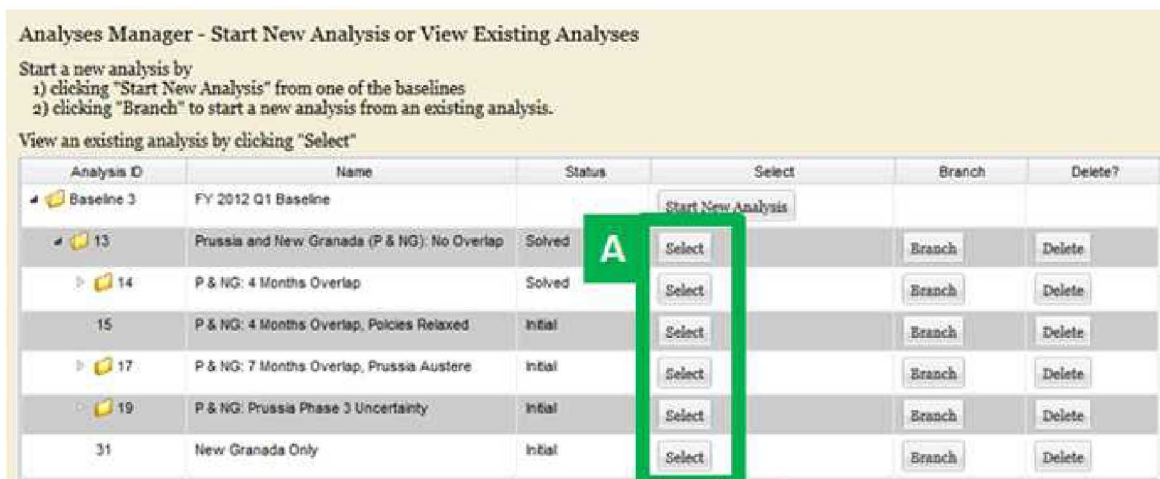

Figure 27. Selecting an existing analysis to view.
- (1) From the Analyses Manager, click the “Select” button of an analysis (step A in Figure 27). Only analyses with status *Solved* will have graph results.